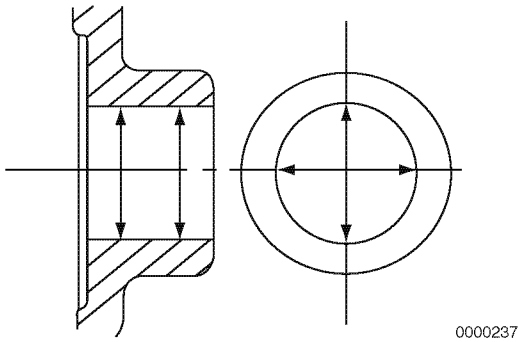

Figure 6-64
6. Measure the diameter of the wrist pin bore on both sides of the piston (**Figure 6-64**). See *Piston on page 6-10 for specifications*. Record the measurements.